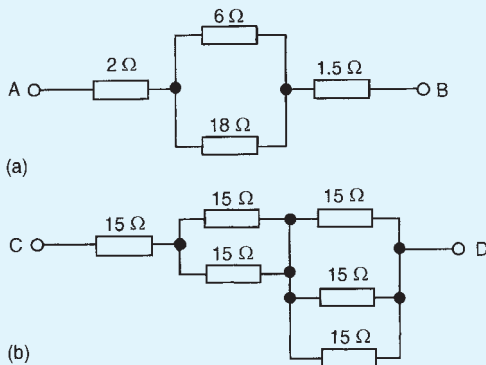

Figure 5.30
4. Find the total resistance between terminals A and B of the circuit shown in Fig. 5.30(a) [8  $\Omega$ ]
5. Find the equivalent resistance between terminals C and D of the circuit shown in Fig. 5.30(b) [27.5  $\Omega$ ]